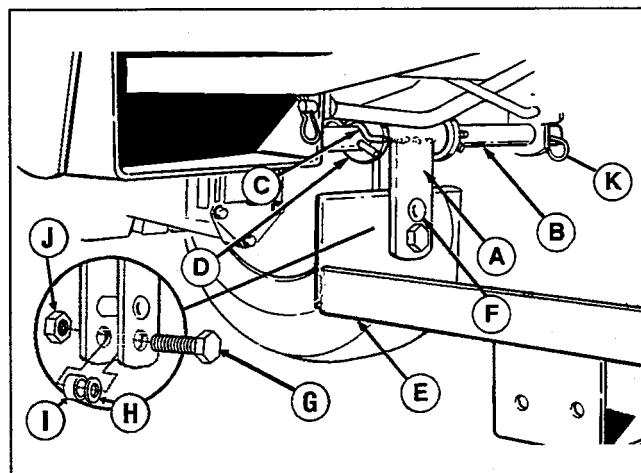

Figure 9. Installing Hitch to Rear Bracket
4. See Figure 9. Slide the rear bracket (A), and washers (D), onto the lift lever shaft, and secure with the spring clips (C).
5. See Figure 9. Position the rear plate of the hitch assembly between the hanger tabs on the rear bracket, and secure at the top mounting hole using the clevis pin (F), and safety clip (K).
6. See Figure 9. Install the capscrew (G), spacers (H & I), and whizlock nut (J) in the lower mounting hole as shown, and tighten securely.